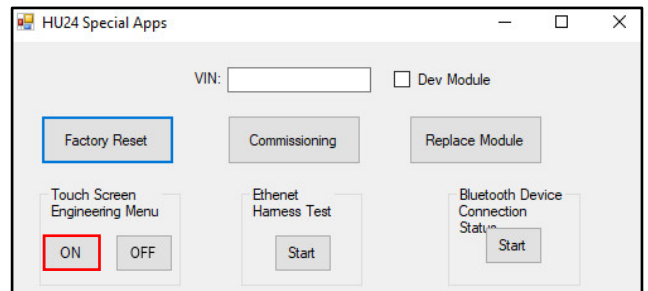

Figure 4
8. Select "ON" to unlock the Touch Screen Engineering Menu (refer to Figure 4).